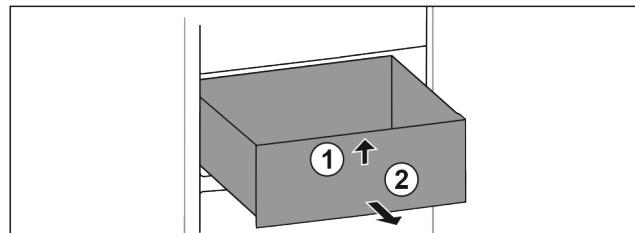

Fig. 93
- Lift drawer at the front. Fig. 93 (1)
- Remove drawer to the front. Fig. 93 (2)